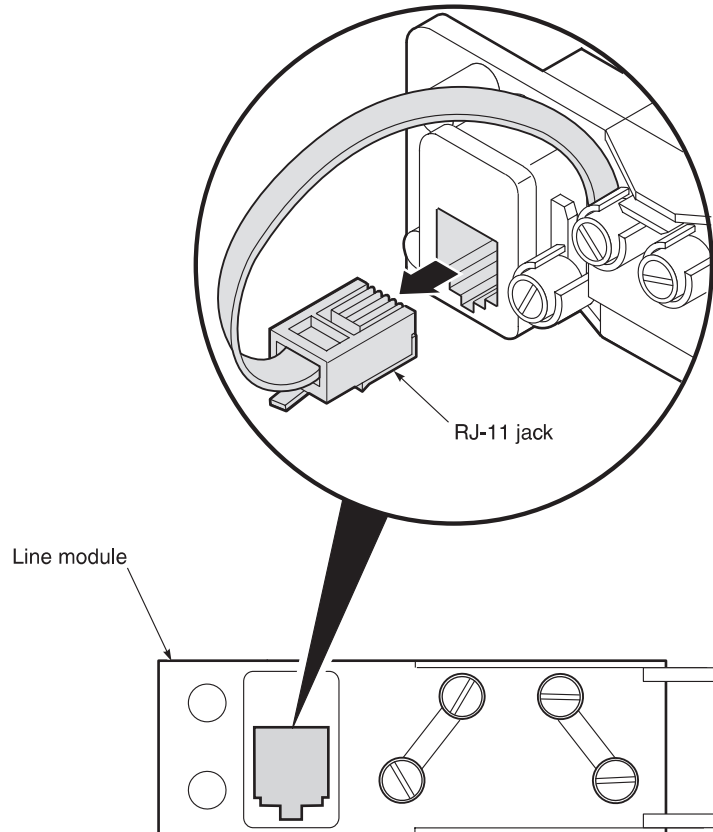

Figure 10. Unplugging the RJ-11 Jack
- 1 Open all the Line Module doors and unplug each RJ-11 jack to ensure there are no wiring errors from the subscriber lines (see Figure 10).